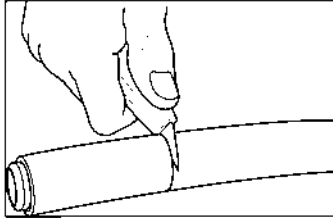

Figure: 4-50
4. Finish cutting through the sleeve down to the stainless corrugated pipe using a sharp utility knife. Figure: 4-50